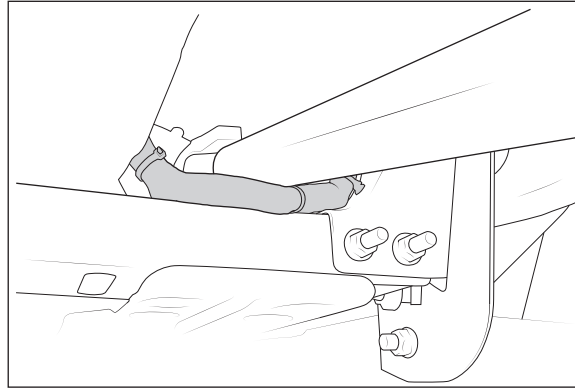

Figure 14
**NOTE for 3500 Trucks with the AISIN AS66RC Transmission upgrade:** The chassis wiring harness will contact the front drive shaft at full extension (fig. 14) and must be relocated. Disconnect the wiring harness from the frame so it can be moved further to the rear of the vehicle. Zip-tie in place using existing holes in the frame.
- B. Install one side at a time and torque all fasteners (fig. 14).